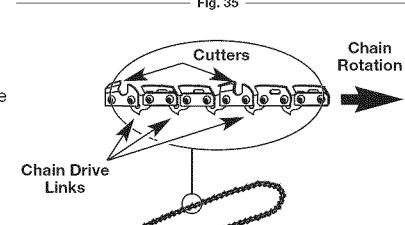

Fig. 36
1. Lay out the new saw chain in a loop and straighten any kinks. The cutters on the top of the guide bar should face toward the guide bar tip in the direction of chain rotation (Fig. 36). If they face backward, turn the loop over.
**NOTE:** Make sure the chain is correctly installed and the cutters are facing in the correct direction (Fig. 36).